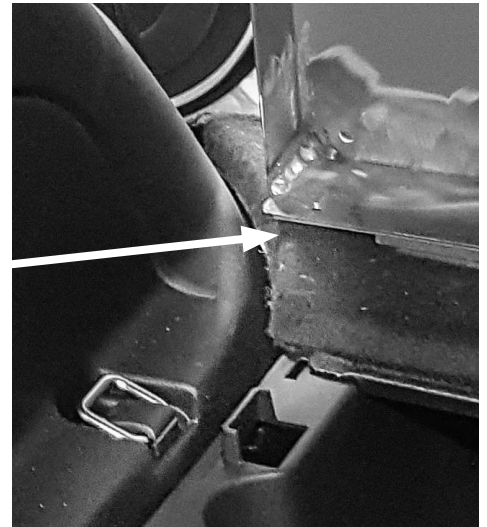

FIG. 5b
B. Barrier corner will be practically tangent to cargo trim. (See Fig. 5b)